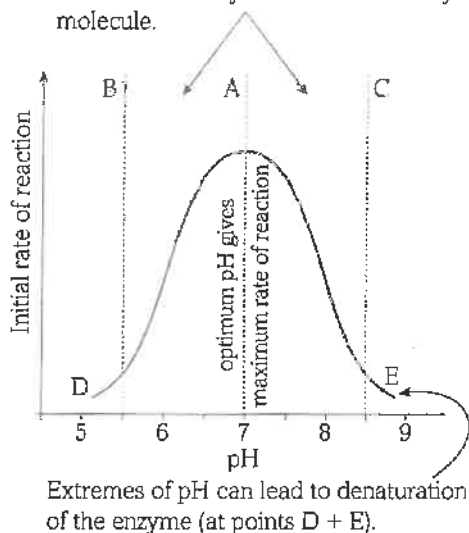

Figure 2 The effect of pH on an enzyme-catalysed reaction.
- Small changes of pH, either side of the **optimum pH**, slow the rate of reaction, because the shape of the active site is disrupted (see Figure 2).
As ammonia is released, the pH of the solution is increased. The indicator phenol red changes from yellow to pink when alkaline (see Figure 2).